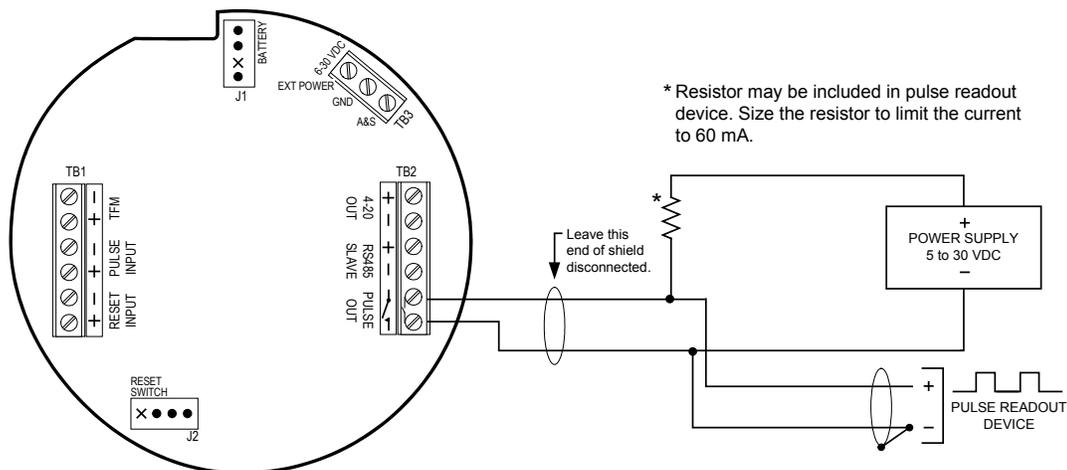
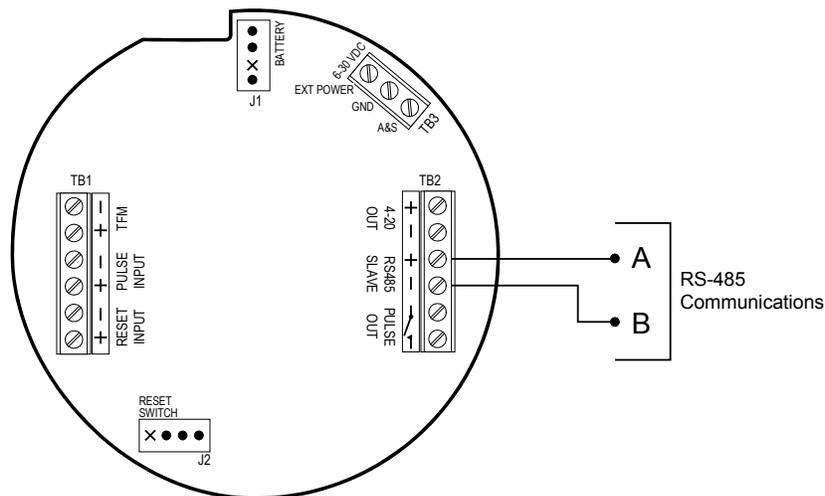
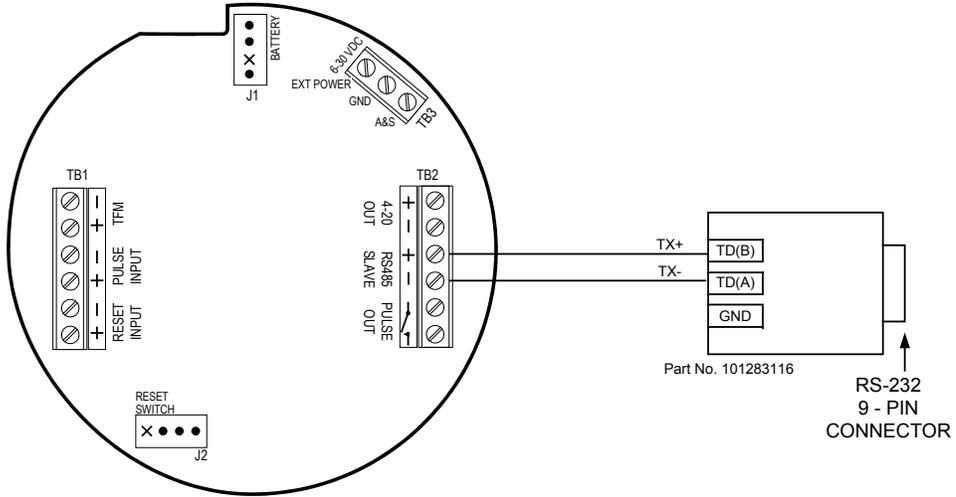
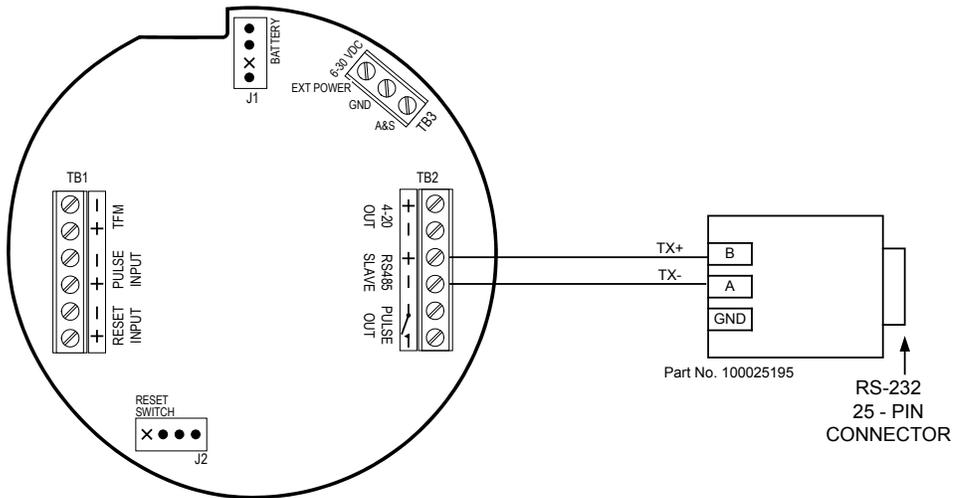

Figure 2.7—Pulse output wiring
Figure 2.10—RS-485 output (permanent connection)
Figure 2.11—RS-485 output (connection to laptop with 9-pin converter)
Figure 2.12—RS-485 output (connection to laptop with 25-pin converter)
5. Connect wiring for output signals, if appropriate. See *Figure 2.7, page 21, through Figure 2.12, page 24*.
The RS-485 output is required for communication with the interface software. Wiring diagrams are provided for a permanent connection (Figure 2.10), as well as for temporary laptop connections using an RS-485 to RS-232 converter (Figure 2.11 and Figure 2.12, page 24).